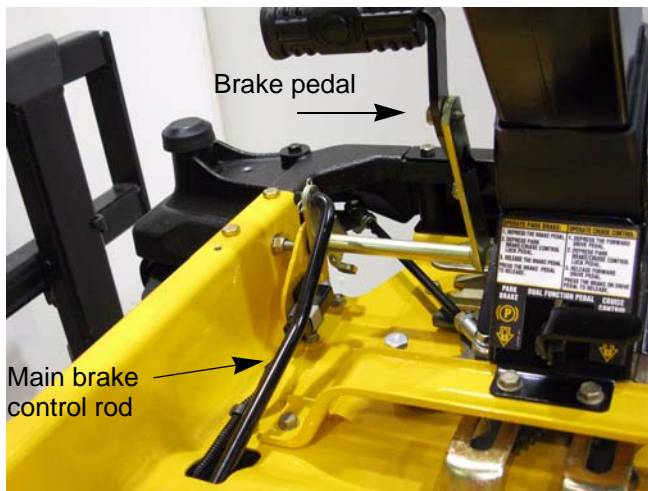

Figure 4.1
- Depressing the brake pedal will cause the control pedal shaft to rotate. When the shaft rotates, a bell crank attached to it will pull on the main brake control rod. See Figure 4.1.